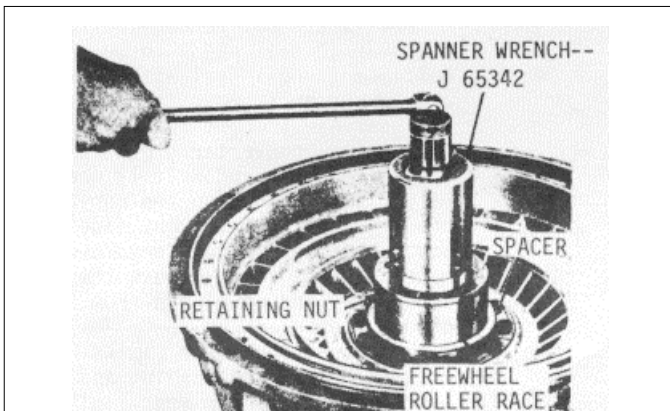

Fig. 8
- (5) Straighten the staked section of the freewheel roller race retaining nut (20).
- (6) Using the spanner wrench J 65342, remove the retaining nut (Fig. 8).
- (7) Remove freewheel roller race and spacer (Fig. 8).